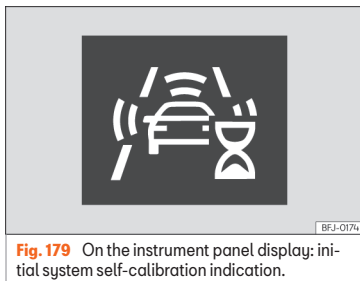

Fig. 179 On the instrument panel display: initial system self-calibration indication.
- In the first few instants of driving after switching on the ignition, due to the system's initial auto-calibration. During this period, a status icon » **Fig. 179** is displayed.